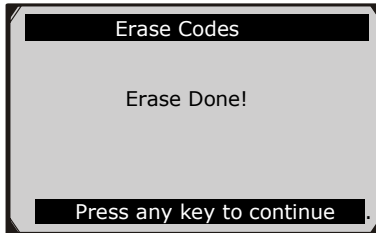

Figure 5.7
- If the codes are cleared successfully, an “Erase Done!” confirmation message shows on the display.( Figure 5.7)